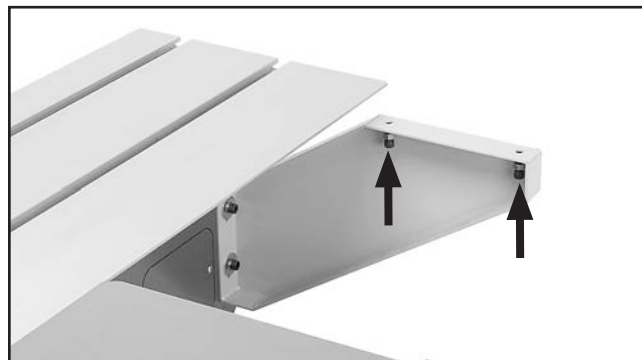

Figure 26. Small extension table support cap screws (table removed for photo clarity).
9. Thread an M10-1.5 hex nut all the way onto two M10-1.5 x 20 cap screws, then install the cap screws where shown in **Figure 26** to hold the small extension table level. Tighten the hex nuts against the table support to lock the cap screws in place.